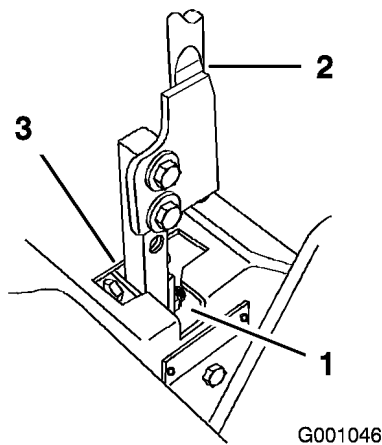

Figure 63
5. Move the lever to the neutral position but **not locked** (Figure 63).
6. Pull the lever back until the clevis pin (on arm below pivot shaft) contacts the end of the slot (just beginning to put pressure on the spring) (Figure 63).
7. Check where the control lever is relative to notch in console (Figure 63). It should be centered allowing lever to pivot outward to the neutral lock position.